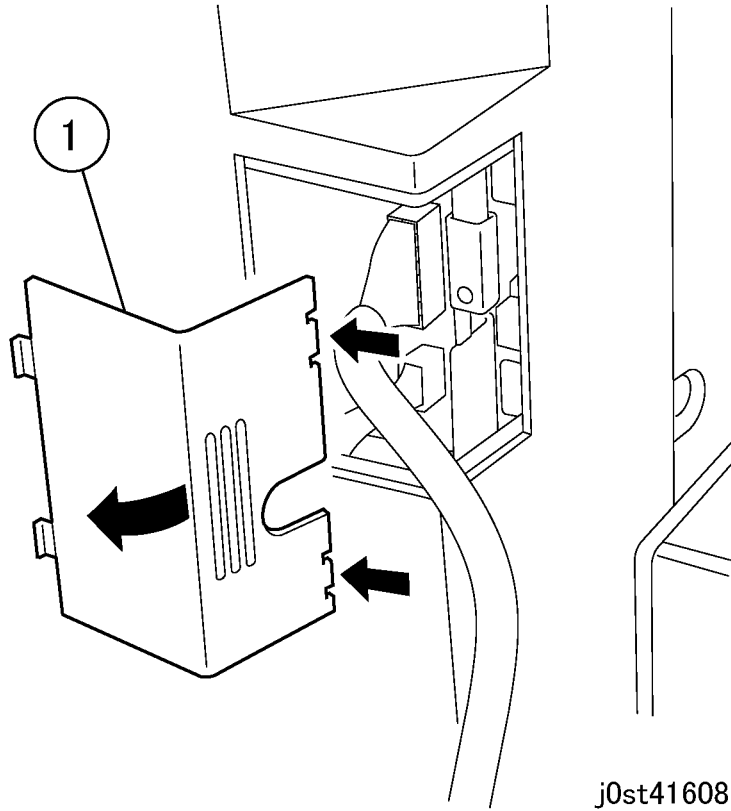

Figure 4 Removing the Left Panel
4. Remove the Left Panel. (Figure 4)